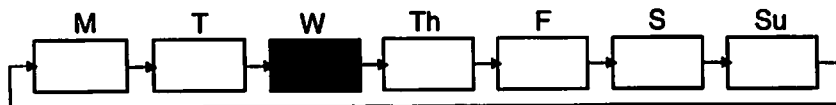

Fig. 9
3. Press "+" or "-" button until day of week marker is positioned below correct day name on LCD. See Fig.9, page 19.